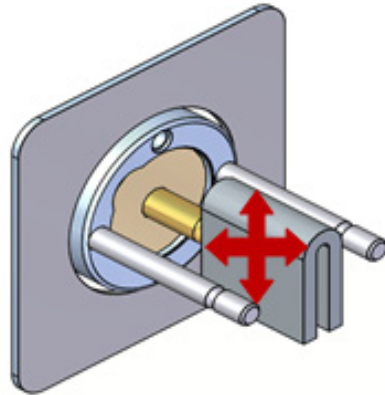

Figure 6-13 Cleaning the piston
12. Use the scouring pad included in the seal replacement kit to clean the piston. Gently squeeze the piston within a folded section of the pad and rub the pad along the length of the piston. Rotate the piston frequently to assure the entire surface is scrubbed. After scouring, use a lint-free cloth, dampened with alcohol, to wipe the piston clean (Figure 6-13).